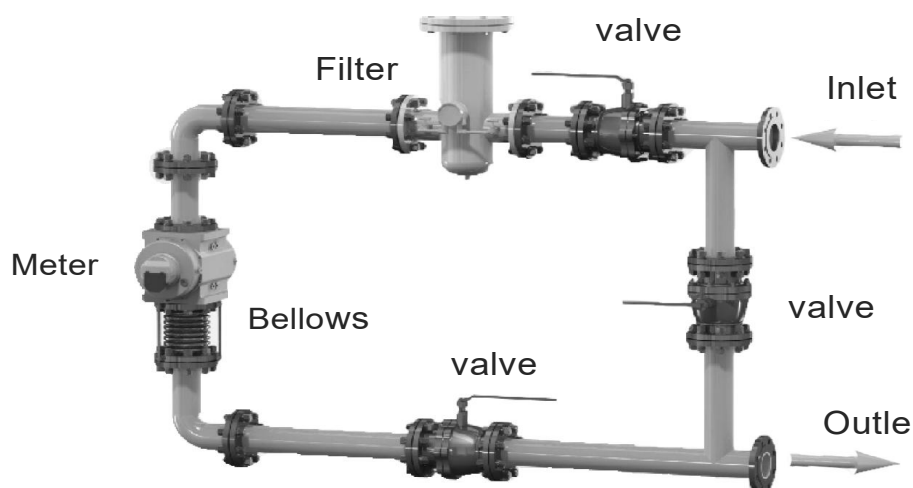

Figure 7 Vertical installation
6.1.1 Vertical installation (see Figure 7): When installed vertically, the gas inlet must be at the top, and the airflow flows from top to bottom, that is, top in and bottom out. The company recommends that users use vertical installation as much as possible. Vertical installation is helpful to the impeller's self-cleaning ability against debris.
- (3) The oil injection hole is located directly above the meter, and the oil drain hole is located below the meter, as shown in Figure 7